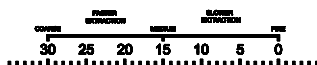
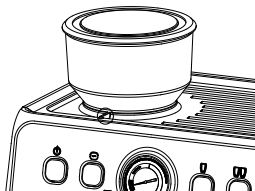

Fig. 4: From 0 to 30, coffee powder is from fine to coarse. Bigger number for coarser coffee powder.
Fig. 5
There are markings to show the coffee coarseness on the bean container, see Fig. 4. To make the coffee coarseness you prefer, make sure the container (1) setting you want on the bean box is aligned with the mark position on the bean container (as shown in Fig. 5).